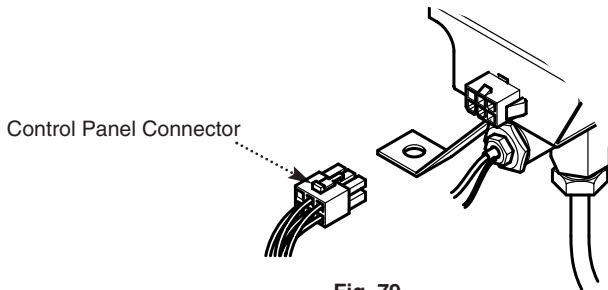

Fig. 79
1. Disconnect the control panel connector from the front of the valve bracket (Fig. 79).